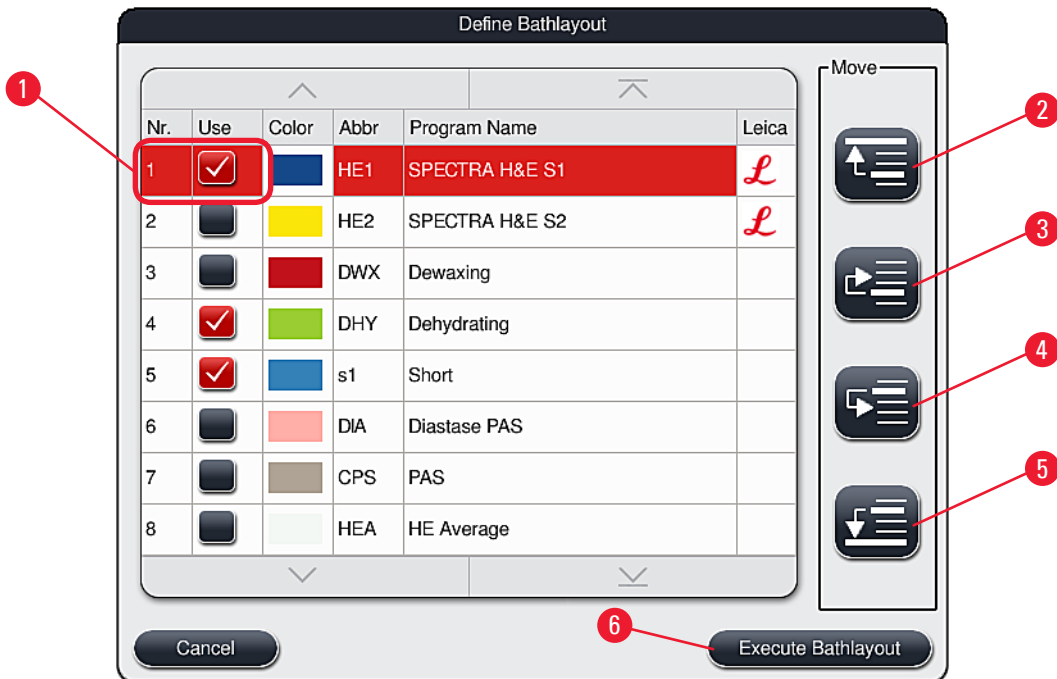

Fig. 50
- Press the "Continue" (→ "Fig. 52-4") button to proceed or the "Cancel" (→ "Fig. 52-5") button to return to the program selection (→ "Fig. 50").